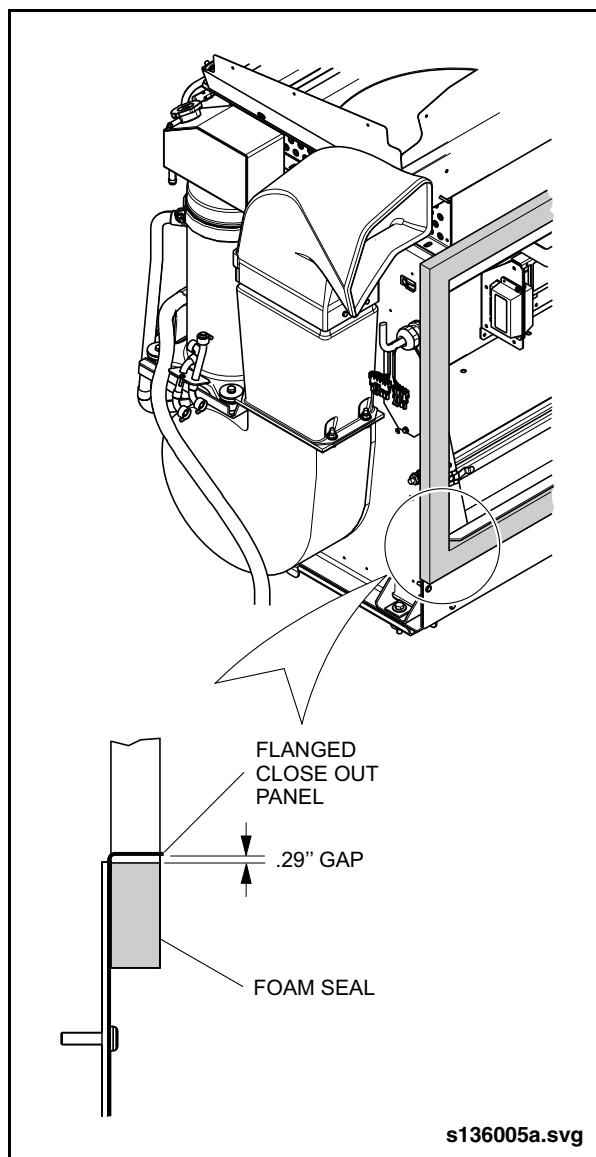

Fig. 10-8: Return Air Seal Installation
9. Install a new return air foam seal on the HVAC unit. Apply the self-adhesive side of the seal against the unit, ensuring a proper gap between the lower edge of the seal and flanged close out panel. Do not stretch the foam seal. See "Fig. 10-8: Return Air Seal Installation" on page 21.